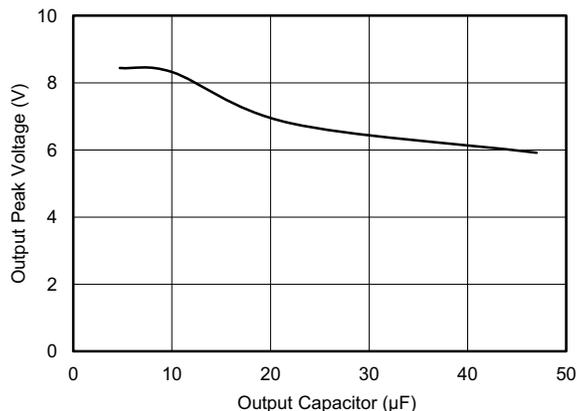

Figure 16. V_{OUT} Peak Voltage vs C_{OUT} (V_{IN} Step From 5 V to 15 V With 1-V/ μs Ramp-Up Rate)
When V_{IN} ramp up exceeds 7.6 V, V_{OUT} follows V_{IN} until the TPS25200-Q1 device turns off the internal MOSFET after $t_{(\text{OVLO_off_delay})}$. Because $t_{(\text{OVLO_off_delay})}$ largely depends on the V_{IN} ramp rate, V_{OUT} receives some peak voltage. Increasing the output capacitance can lower the output peak voltage as shown in Figure 16.
- For output capacitance, see Figure 16. A low-ESR ceramic capacitor is recommended.